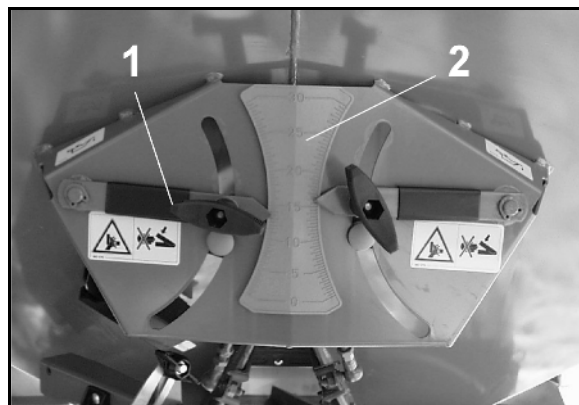
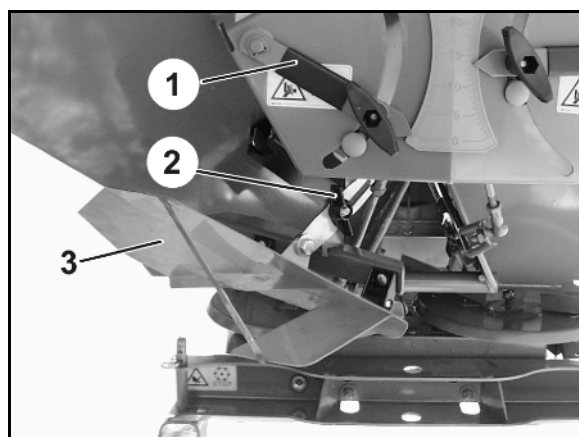

Fig. 85
Fig. 86
- Close the left slider (Fig. 85/1).
2. Release the wing nuts (Fig. 85/2).
3. Swing the border spread deflector (Fig. 85/3) down from inoperative position to operating position (Fig. 86).
4. Tighten the winged nut (Fig. 85/2).